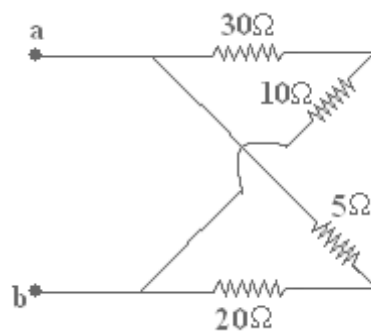

Figure 2b
- (b) Find the voltage needed across terminals a-b shown in the figure 2b so that the drop across the 10Ω resistor is 30V. Also find the corresponding voltage drop across the 5Ω resistor. [8+8]